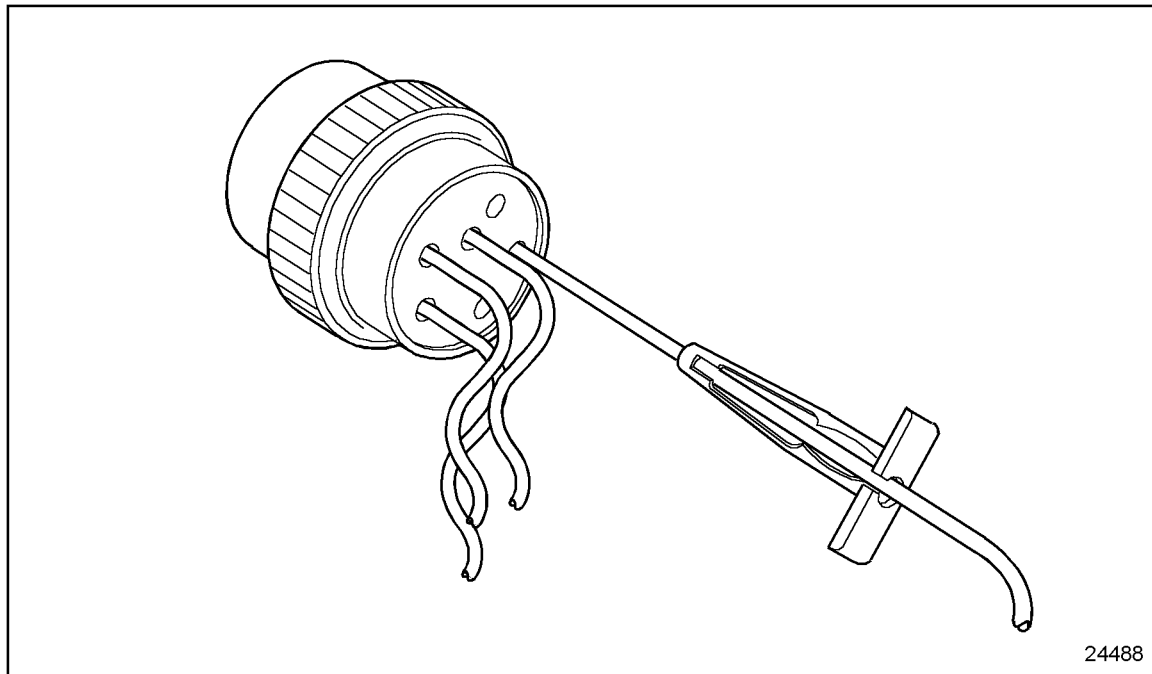

Figure 8-21 Removal Tool Position
1. With the rear insert toward you, snap the appropriate size remover tool over the cable of contact to be removed. See Figure 8-21.